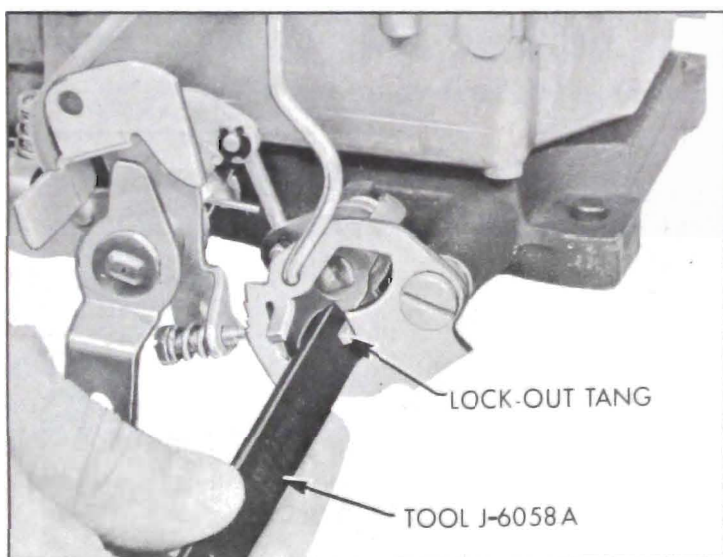

Figure 3-89—Adjusting Secondary Contour
8. If clearance between tang and contour is not correct, bend tang as required to obtain this clearance using Tool J-6058A. See figure 3-89.